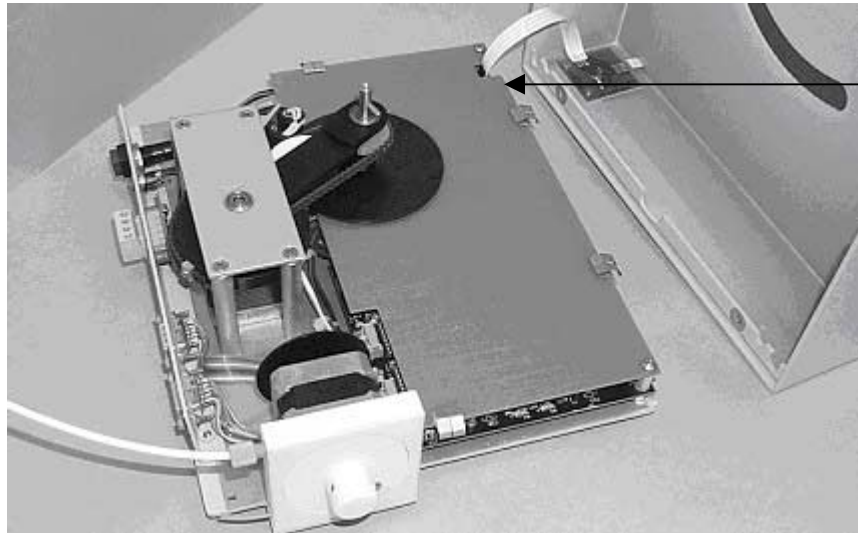

Figure 1-7. Inside view of ASX-100 Auto-Sampler .
6. After the top hood is removed then the ribbon cable needs to be unplugged. Figure 1-7.